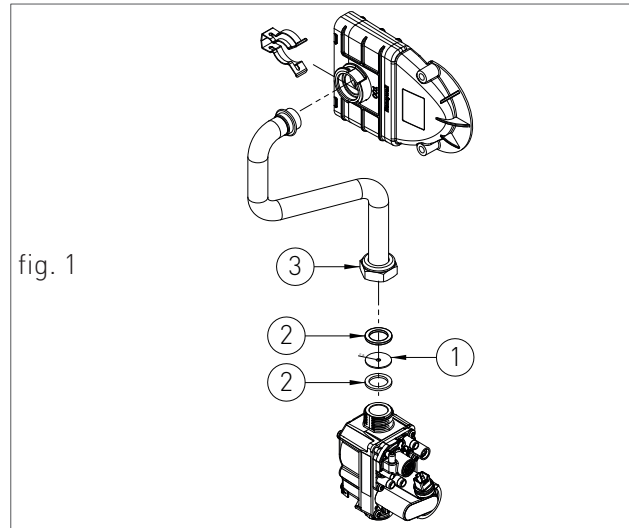

fig. 1
2. Insert the diaphragm '1' (for LPG - Ø 6 mm diaphragm - code 15-01728) and gaskets '2' and re-tighten the coupling '3' (see fig.1).
2. Remove the diaphragm '1' and re-tighten the coupling '3' (see fig.1).
3. Remount the components following the demounting operations in reverse (see fig.1);